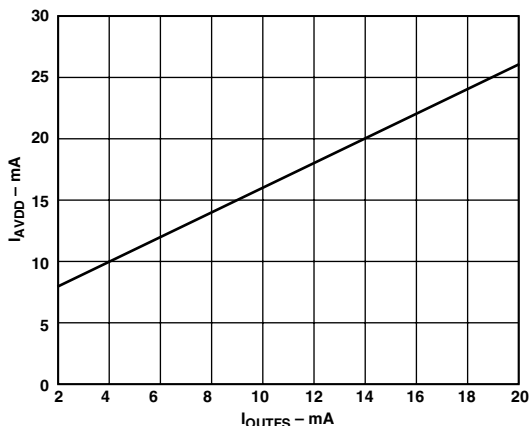

Figure 47.  $I_{AVDD}$  vs.  $I_{OUTFS}$
The power dissipation,  $P_D$ , of the AD9762 is dependent on several factors which include: (1) AVDD and DVDD, the power supply voltages; (2)  $I_{OUTFS}$ , the full-scale current output; (3)  $f_{CLOCK}$ , the update rate; (4) and the reconstructed digital input waveform. The power dissipation is directly proportional to the analog supply current,  $I_{AVDD}$ , and the digital supply current,  $I_{DVDD}$ .  $I_{AVDD}$  is directly proportional to  $I_{OUTFS}$  as shown in Figure 47 and is insensitive to  $f_{CLOCK}$ .